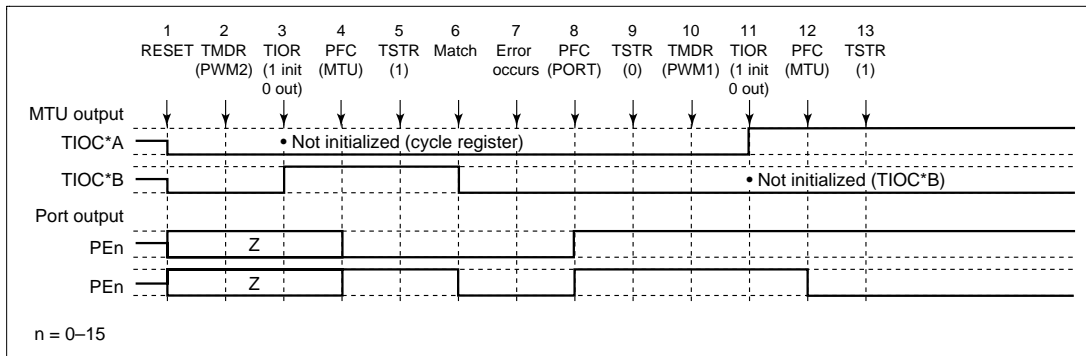

Figure 10.70 Error Occurrence in PWM Mode 2, Recovery in PWM Mode 1
(10) Operation when Error Occurs during PWM Mode 2 Operation, and Operation is Restarted in PWM Mode 1: Figure 10.70 shows an explanatory diagram of the case where an error occurs in PWM mode 2 and operation is restarted in PWM mode 1 after re-setting.